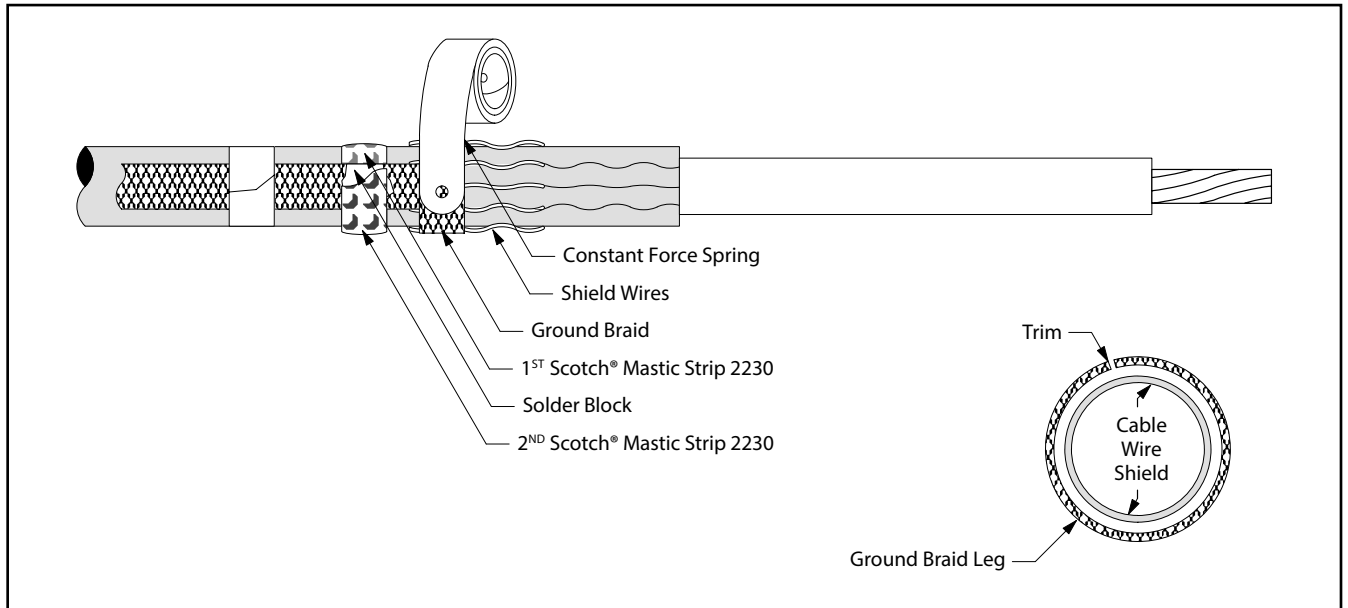

Figure 21
- 13.3 Wrap ground braid around cable shield wires one complete wrap, trim excess to prevent overlap and secure in place with constant force spring. Wrap spring in same direction as ground braid (*Figure 21*). Cinch (tighten) the spring after wrapping the final winding.
13.4 Select second Scotch® Mastic Strip 2230 from kit and remove white release liners. Apply a second **SINGLE WRAP** of mastic over solder block on ground braid and previously applied mastic (*Figure 21*). Cut off excess.